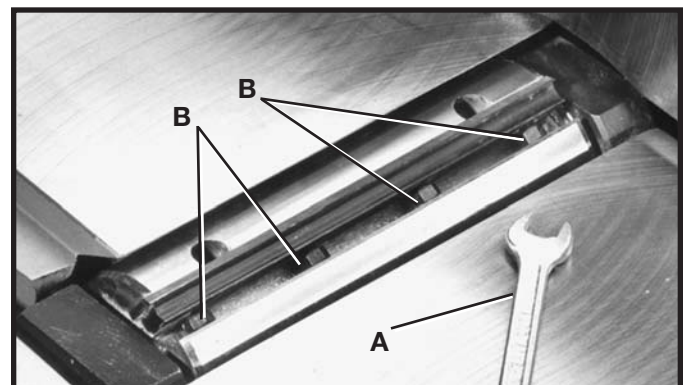
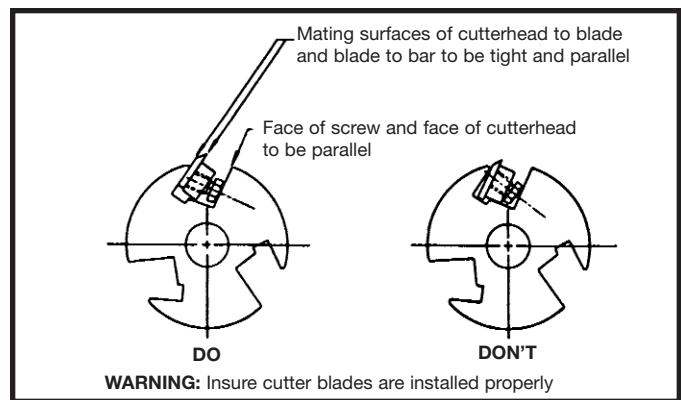

Fig. 57
Fig. 59
3. Using 8x10 mm open end wrench (A) Fig. 57, slightly loosen the four locking screws (B) in each knife slot by turning the screws (B) clockwise. This relieves stress in the cutterhead.
4. Loosen screws (B) Fig. 57, further and remove knife and knife locking bar.
⚠ WARNING **CARE MUST BE TAKEN WHEN INSERTING THE KNIVES AS THE CUTTING EDGES ARE VERY SHARP.** Push the knife down using a scrap piece of wood as far as possible and turn each screw (B) Fig. 57, counterclockwise just enough to hold the knife in position. Replace the remaining two knives in the same manner. **NOTE: KNIVES MUST BE INSTALLED CORRECTLY AS SHOWN IN FIG. 59.**